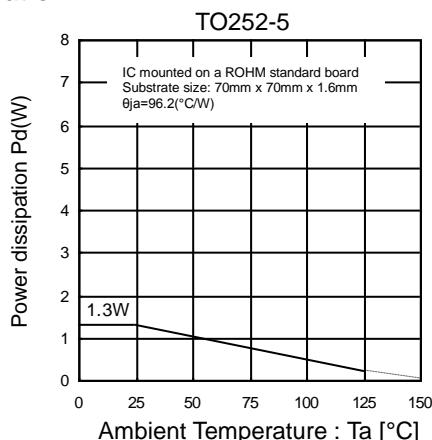
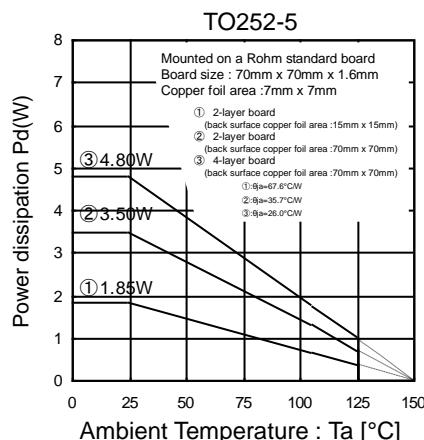
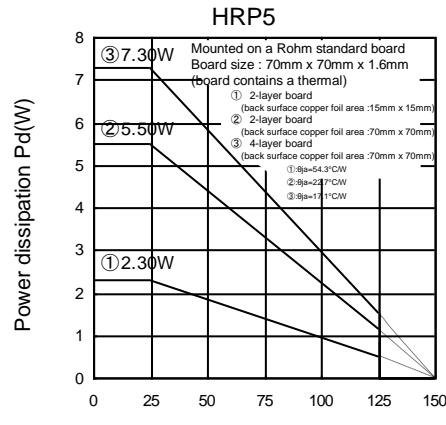

Figure 15
Figure 16
Figure 18
Refer to the heat attenuation characteristics illustrated in Figure 15 to Figure 18 when using the IC in an environment where T_a exceeds 25°C . The operating temperature of the IC greatly influences the characteristics of the IC. If the temperature exceeds the maximum junction temperature $T_{j\text{max}}$, the elements of the IC may be deteriorated or damaged. It is necessary to give sufficient consideration to the heat of the IC in view of two points, i.e., the protection of the IC from instantaneous damage and the maintenance of the reliability of the IC in long-time operation.
In order to protect the IC from thermal destruction, it is necessary to operate the IC below the maximum junction temperature ($T_{j\text{max}}$) Figure 15 and Figure 16 illustrate the power dissipation/heat attenuation characteristics for the TO252 package. Operate the IC within the power dissipation P_d . The following method is used to calculate the power consumption P_c (W).
$$I_{OUT} \leq \frac{2.496 - 12 \times I_{CC}}{12 - 5} \quad \left. \begin{array}{l} \text{Figure 16 (3) : } \theta_{ja} = 26.0^{\circ}\text{C/W} \text{ to } -38.4\text{mAW/}^{\circ}\text{C} \\ 25^{\circ}\text{C} = 4.80\text{W to } 85^{\circ}\text{C} = 2.496\text{W} \end{array} \right\}$$